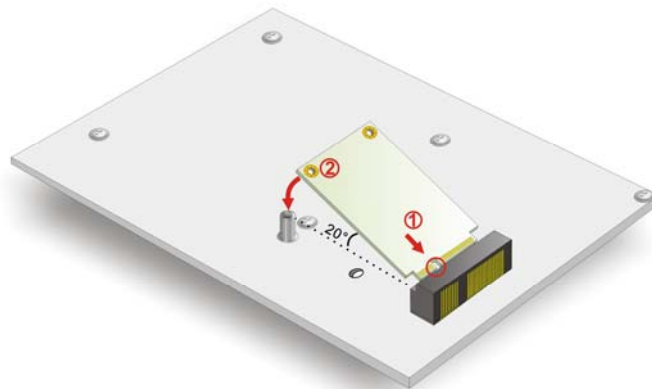

Figure 4-17: Insert the Full-size PCIe Mini Card into the Socket at an Angle
Step 3: Insert into the socket at an angle. Line up the notch on the card with the notch on the connector. Slide the PCIe Mini card into the socket at an angle of about 20° (Figure 4-17).